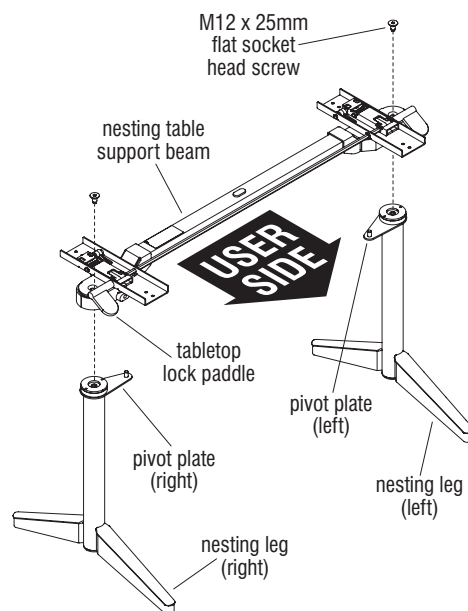

Figure 1 - Leg Installation
2. Locate the nesting table support beam assembly and position it so the tabletop lock paddles face the "user side" as illustrated. Choose one nesting leg and identify if it is right- or left-hand by the letter under the pivot plate, then stand it upright. Position the nesting leg such that the pivot plate nests into the mounting location in the beam assembly at the correct left or right-hand location as illustrated using an 8 mm Allen wrench. Twist in a M12 x 25 mm flat socket head screw through the top of the nesting table support beam and into the top of the nesting leg being installed, but do not tighten at this time. Repeat the process to loosely attach the second leg to the support beam. Once both legs are under the support beam, use a $\frac{3}{4}$ " open end wrench to hold (but do not turn) the nut at the underside of each leg upright. Using an 8 mm Allen wrench at the top, tighten the M12 x 25 mm flat screw to secure. Do not turn or tighten the nut at the bottom of the nesting legs. Repeat the process above to tighten the other leg to the support beam at the top (Figures 1 & 2).